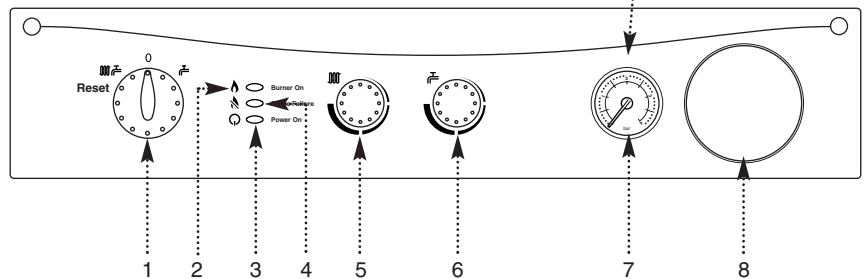

Fig. 2
3. In either position the green "power" neon (Ⓚ) will illuminate (Fig. 2).
7. The orange "burner" neon (🔥) will illuminate when the boiler is operating and the main burner is on (Fig. 2).